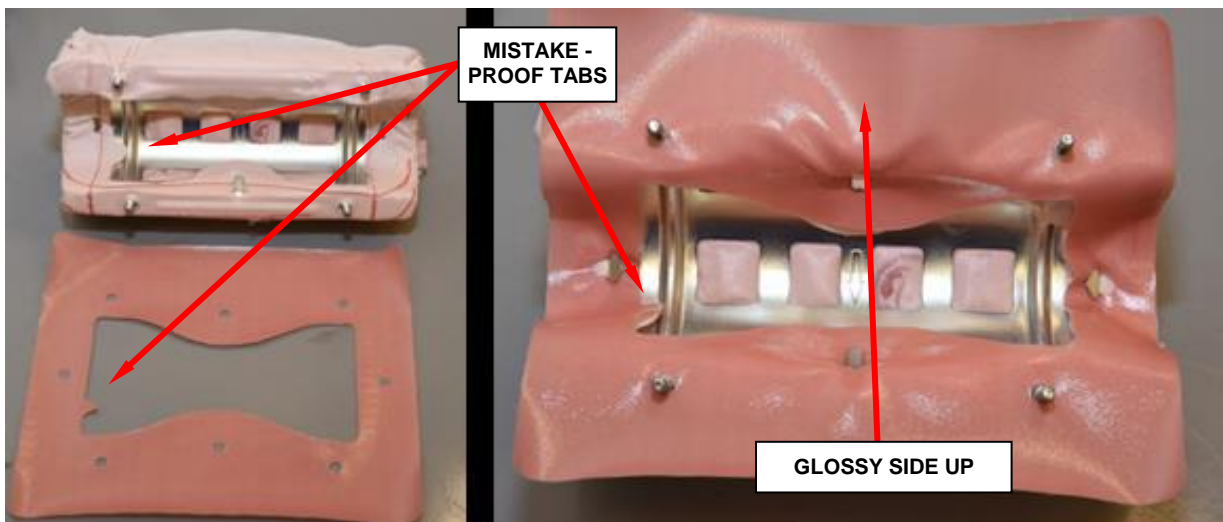

Figure 82 – Fabric Gasket to Cushion
- f. Place the fabric gasket, glossy side up, onto cushion. Mistake-proof tab should be aligned to the tab on the cushion (Figure 82).